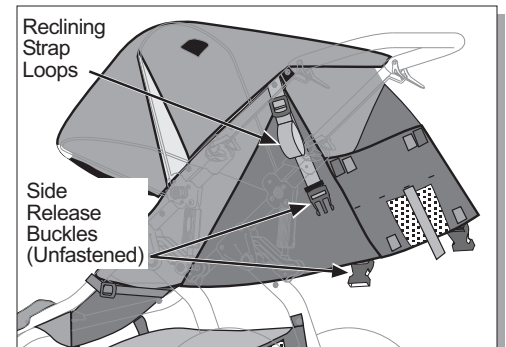

Fig. 21 Seat in fully reclined position.
To fully recline the seat, unfasten side release buckles at seat back. (Fig. 21)
**⚠ WARNING: When seat is fully reclined, (Fig. 21) backward tip-over is more likely, and may result in an accident or injury, as seat and/or passenger may contact ground before handlebar.**